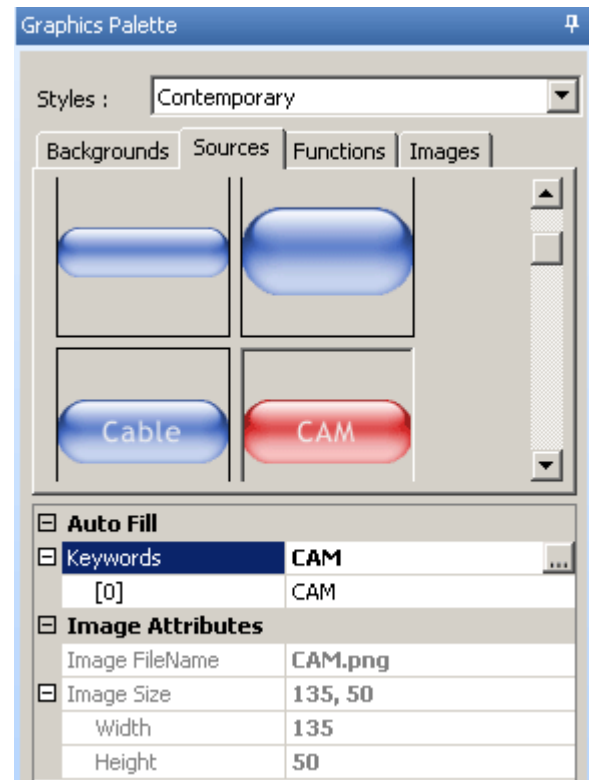

Figure 22 – Selecting Source GTL Style
1. With the **Background** placed in the **System Window**, in the **Graphics Palette**, click the **Sources Tab** to display the **Source Buttons** associated with the selected **Background Style**. If using a *different style Source GTL*, select the **Source GTL Style** from the **pull-down**. The **Source Button options** for a given **Style** will be displayed in the **Graphics Palette**, with the **Image Attributes** of a selected **Source Button** indicated directly below. (Figure 22)